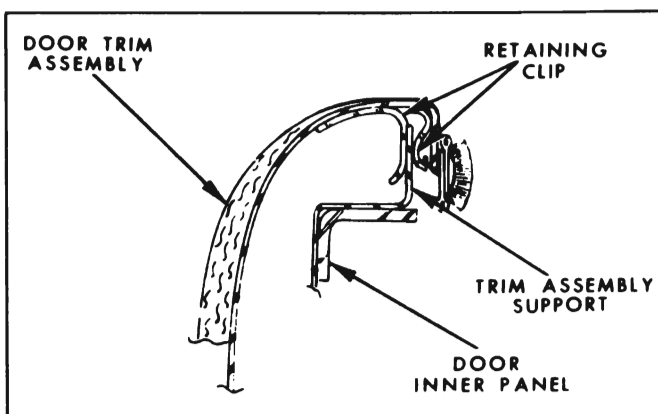

Figure 13-189—Door Trim Retaining Clip
8. To install door trim assembly, reverse removal procedure. On four-door styles make sure retaining clips on door trim assemblies are properly engaged over supports on door inner panel, as shown in Figure 13-189, before tapping in nail strips at front and rear edges of trim assembly.